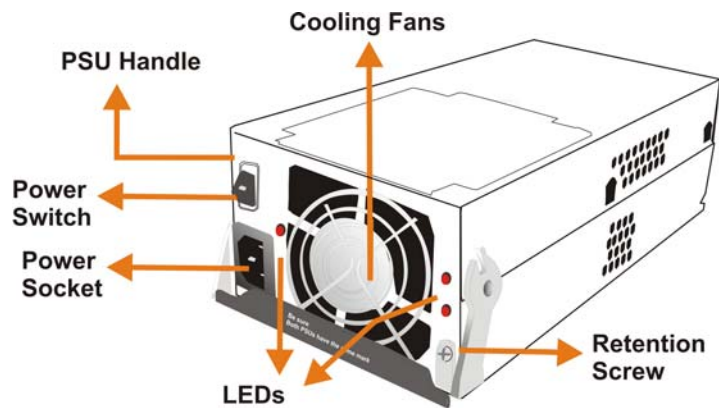

Figure 1-9: PSU Module
As shown in **Figure 1-9**, each PSU comes with a power socket and a power switch to turn the subsystem on and off. Two (2) embedded cooling fans provide sufficient airflow. A single LED indicates the PSU status. When a power supply failure occurs, the LED lights red. A rejection handle at the rear of the PSU is especially designed to help properly install or remove the module.